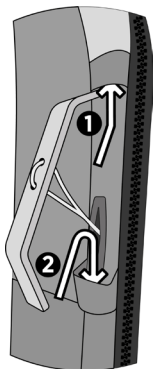

FIGURE 6 Manual Inflation Handle (Hammar MA1 models only)
6. For Hammar MA1 models, ensure the manual inflation pull handle is secured in the handle garages on the outside (Fig. 6).